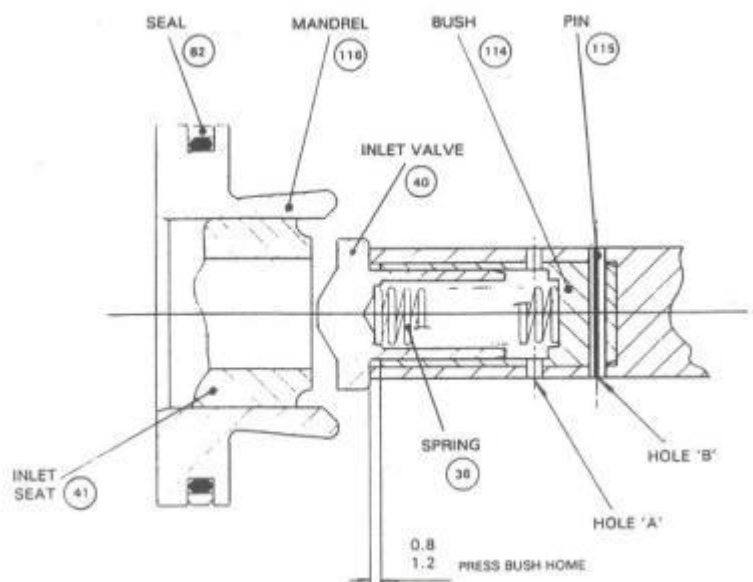
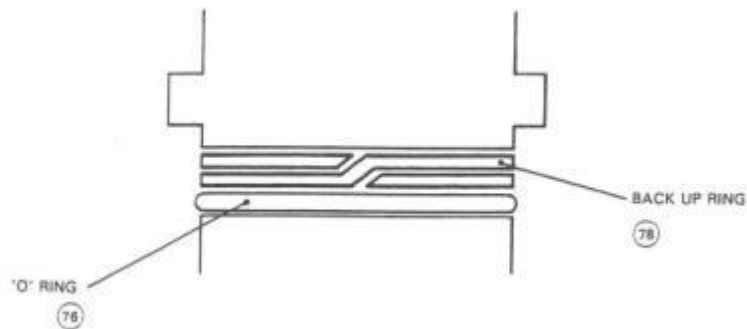

Fig 4.1 Mandrel Assembly
Fig 4.2 Inlet Valve Seat – Back Up Ring and 'O' Ring Fitting
7. During the pump overhaul procedures, reference should be made to the pump component and assembly drawings (Figs 4.1 to 4.6), which include associated parts lists, Also included are assembly drawings of the Mk 2 selector and safety relief valve (Figs 4.7 and 4.8).
8. In the following overhaul procedures, the item number that follows the description of a part refers to the assembly drawings (Figs 4.1 and 4.3 to 4.6).
- 4) Insert a Drift (part no 201-043) into the end of the Mandrel, from delivery end. Tap the end of the Drift to remove Collar (42), Inlet Seat (41), Spring (36), Valve 40, Mandrel Assembly (38) and Diaphragm (37) from the inlet end of the Barrel.
- 5) Pull the Inlet Seat (41) from the Mandrel Assembly (38). Remove Valve (40) and Spring (36).
- 6) Using Extractor (part no 201-082), remove Diaphragm (37) from Mandrel Assembly (38). Inspect the Diaphragm for splits or holes, replace if necessary.
- 7) Inspect Spring (36), replace if necessary.
- 8) Inspect the seating faces of the Valve (40) and Seat (41). If either is badly pitted, chipped or unevenly worn, it must be replaced.
- 9) Inspect the bore of Bush (114).. It should be noted that if the bore is worn it will prevent Valve (40) from shutting smoothly and squarely onto the Seat(41) and must be replaced if necessary. The procedure for replacing the Bush is as follows:
- i. Remove the Pin (115).
- ii. Screw an M12 tap into the Bush (114) until it bottoms.
- iii. Hold end of tap in a vice and gently tap the face of Mandrel (116) with a nylon mallet, until the Bush is removed.
- v. Using a 1.9 mm diameter bit, drill through 6 holes in Mandrel through wall of Bush (see Fig 4.1 - holes A).
- vi. Using a 1.9 mm diameter bit, drill through hole in Mandrel, right through Bush (see Fig 4.1 - holes B).
- vii. Using a flat punch, refit Pin (115) through Mandrel and Bush.
- 11) Inspect Seal (82 - Fig 4.1). If it is damaged, replace as follows:
- 12) Place Valve (40) and Spring (36) into Bush (114).
- 13) With reference to Fig 4.2, fit Back Up Ring (78) and 'O' ring (76) to Seat (41), and grease both. Ensure Back Up Ring is fitted as shown.
- 14) Push and turn Seat (41) anti-clockwise into the Mandrel Assembly